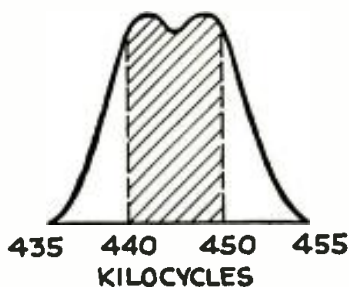

Fig. 4. Receiver curve for television.
A. 1. The scanning drum is nothing more than a mechanical equivalent of the rotating disc. The optical and mechanical relations are such that a spiral scanning motion is obtained. The edge of the disc is turned up in the manner shown in Fig. 4 and the apertures are cut or lenses mounted in the side-wall in a spiral fashion.